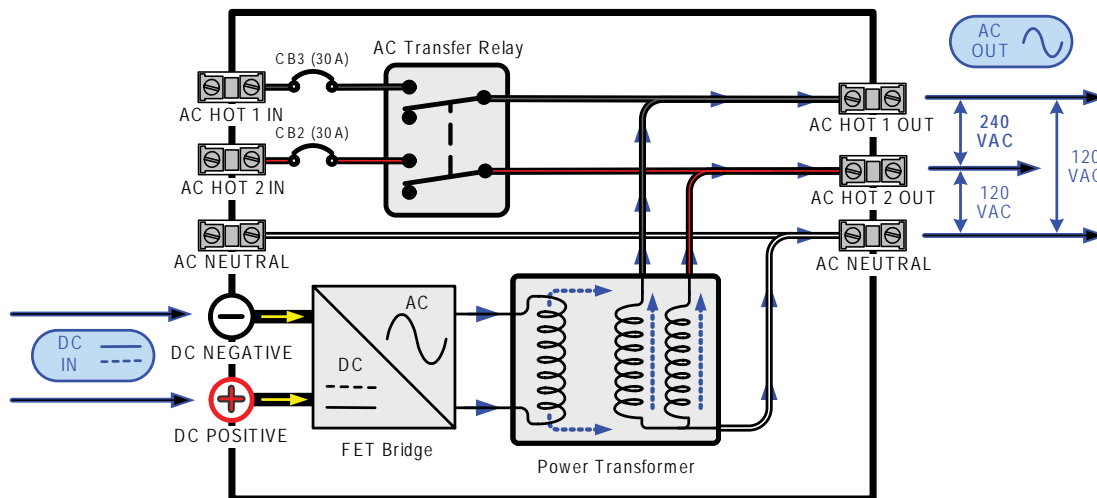

Figure 3-1, Power Flow - Inverter Mode
**Inverting** - When a load greater than 5 watts is connected to the inverter output, the MS-AE series "inverts" the DC power from the battery and supplies 120/240VAC power to your sub-panel. The inverter's green LED flashes once every 2 seconds (medium flash) to indicate it is inverting. The amount of time the inverter can be inverting and provide power is directly related to the amount of AC loads that are connected and the capacity of the battery bank. Refer to figure 3-1 to see the flow of power from the DC input to the AC output while in the Inverter Mode.